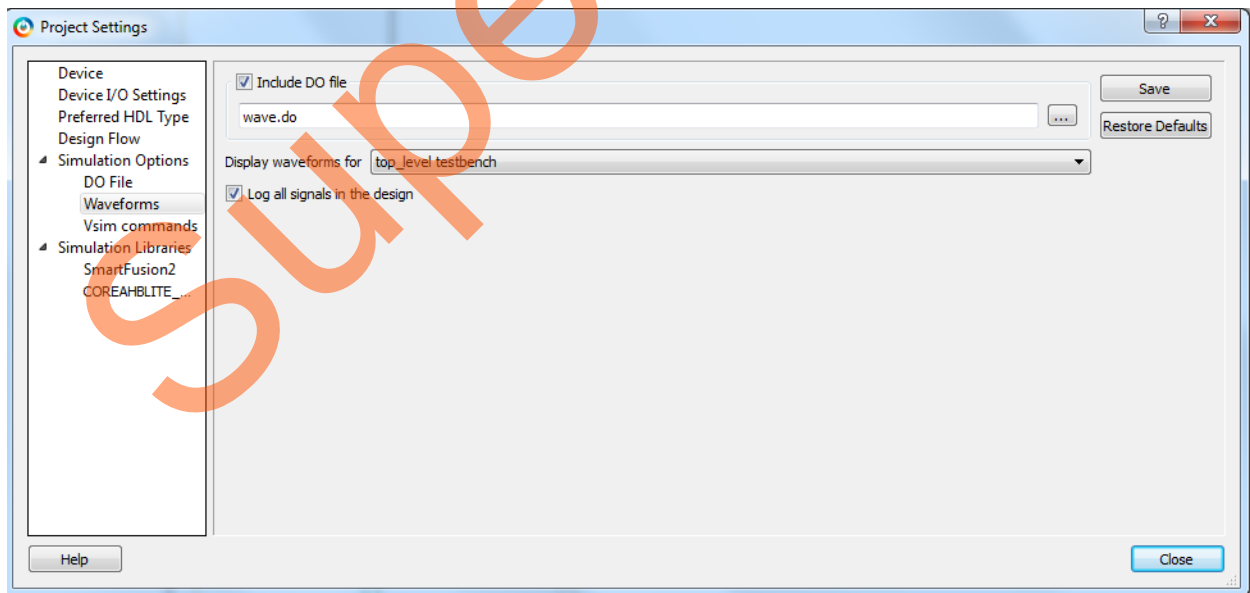

Figure 47 • Project Setting – Waveform
6. Select **Waveforms** under **Simulation Options** as shown in Figure 47: